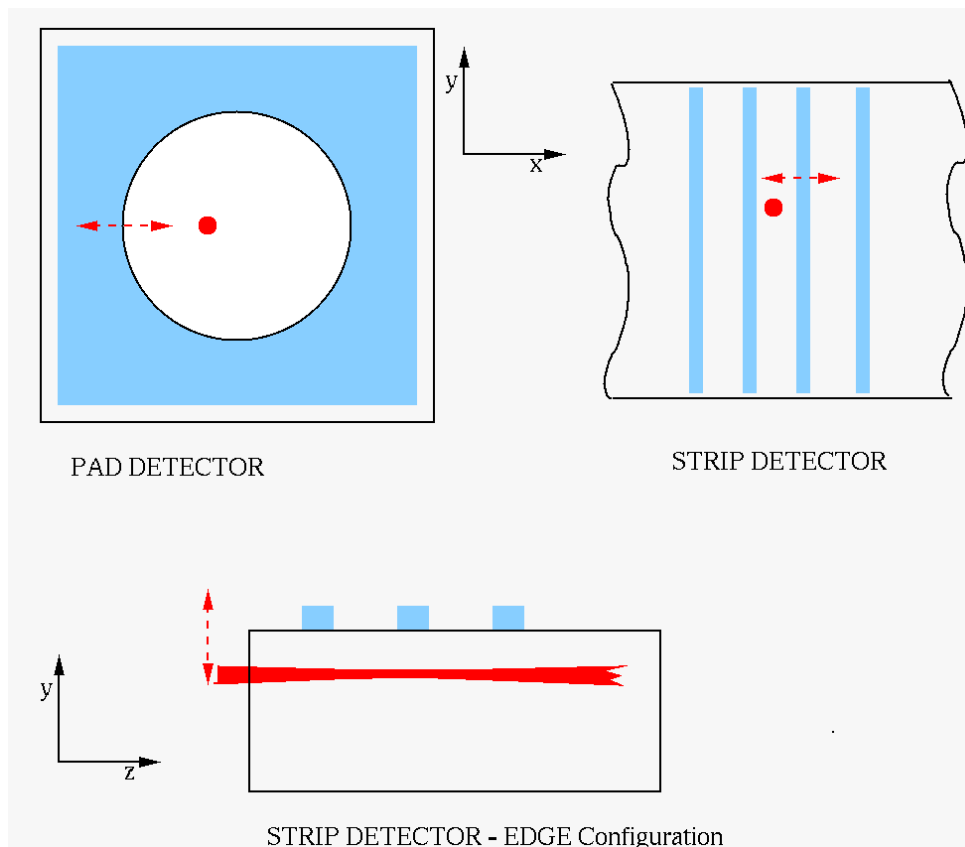

Figure 1: Typical cases of focus finding. Red dot/beam denotes the laser position, the dashed line the scanning axis with a typical range denoted by arrows.
The focus finding is essential before most of the Scanning-TCT measurements can be taken. In order to find the focus there should be a border between metalized and non-metalized (silicon) part on the detector surface and of course the silicon region should be sensitive. In most cases you will encounter one of the situations found in Fig. 1, pad, strip and strip detector in edge-tct configuration.
3. Select the search range in x or y to approximately cover the region denoted by dashed line in Fig. 1
- Once you approximately found the focus set the scanning range in x (or y) as indicated by the dashed line in the Fig. 1 and also in z (range of 1-2 mm in steps of 50 mm). Leave the detector biased fixed (no scanning of bias voltage).